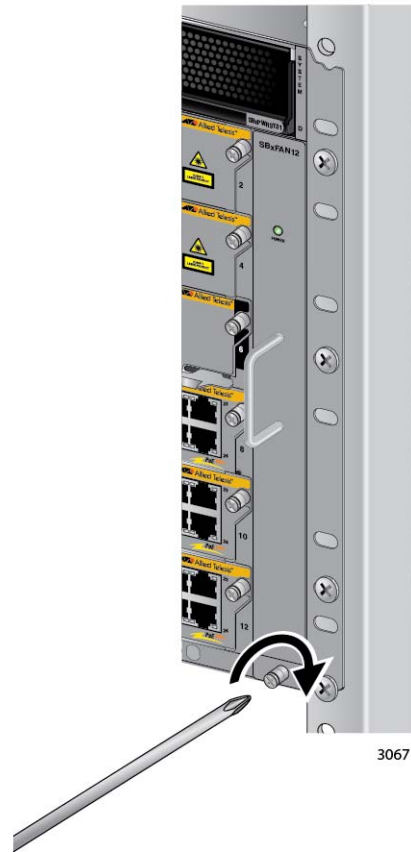

Figure 174. Tightening the Screw on the AT-SBxFAN12 Fan Module
3. With a #2 Phillips-head screwdriver, tighten the screw at the base of the module to secure the module to the chassis. Refer to Figure 174 on page 268.